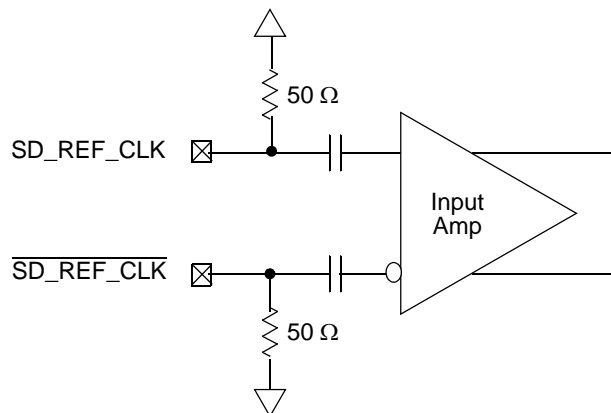

Figure 38. Receiver of SerDes Reference Clocks
Figure 38 shows a receiver reference diagram of the SerDes reference clocks.
- The SD_REF_CLK and $\overline{SD_REF_CLK}$ are internally AC-coupled differential inputs as shown in Figure 38. Each differential clock input (SD_REF_CLK or $\overline{SD_REF_CLK}$) has a 50- Ω termination to XCOREVSS followed by on-chip AC-coupling.